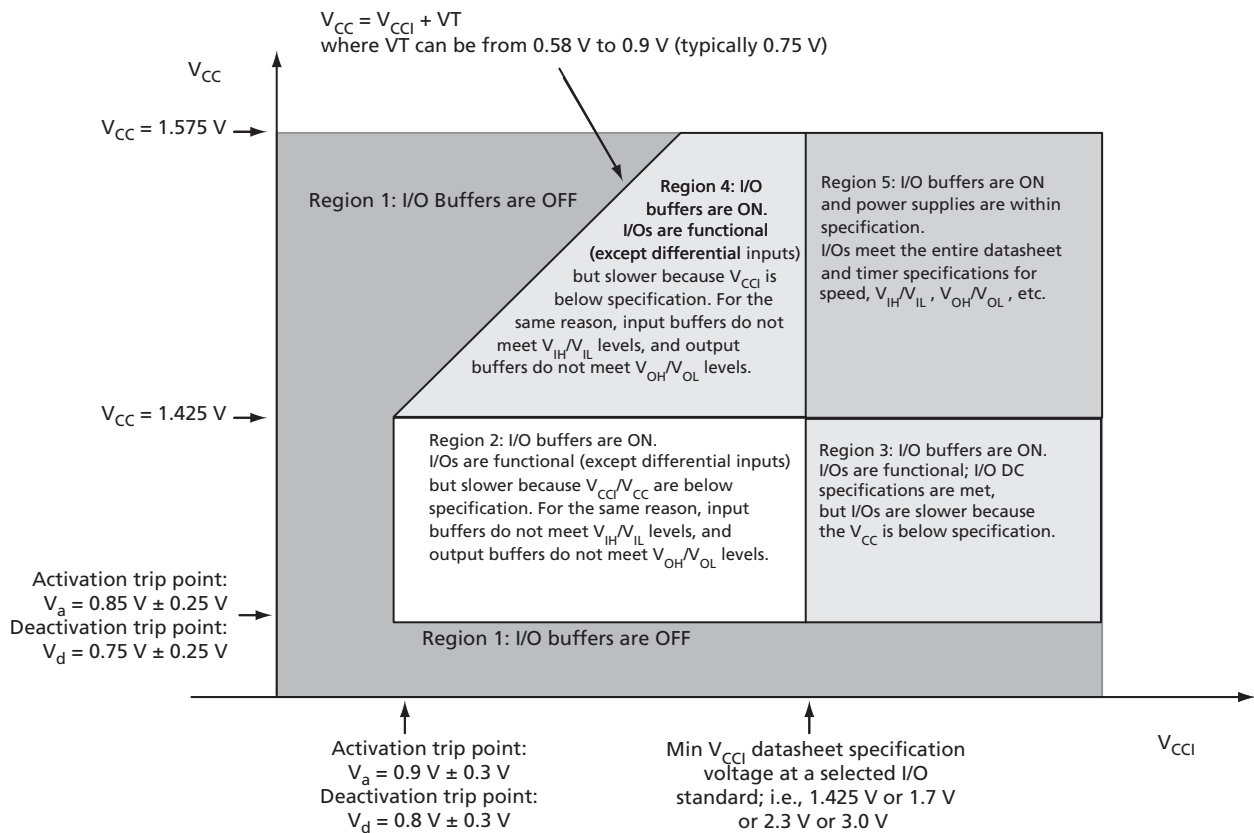

Figure 2-1 • I/O State as a Function of V_{CCI} and V_{CC} Voltage Levels
Sophisticated power-up management circuitry is designed into every ProASIC®3E device. These circuits ensure easy transition from the powered-off state to the powered-up state of the device. The many different supplies can power up in any sequence with minimized current spikes or surges. In addition, the I/O will be in a known state through the power-up sequence. The basic principle is shown in Figure 2-1 on page 2-4.
1. V_{CC} and V_{CCI} are above the minimum specified trip points (Figure 2-1 on page 2-4).
Actel recommends using monotonic power supplies or voltage regulators to ensure proper power-up behavior. Power ramp-up should be monotonic at least until V_{CC} and V_{CCPLXL} exceed brownout activation levels. The V_{CC} activation level is specified as 1.1 V worst-case (see Figure 2-1 on page 2-4 for more details).